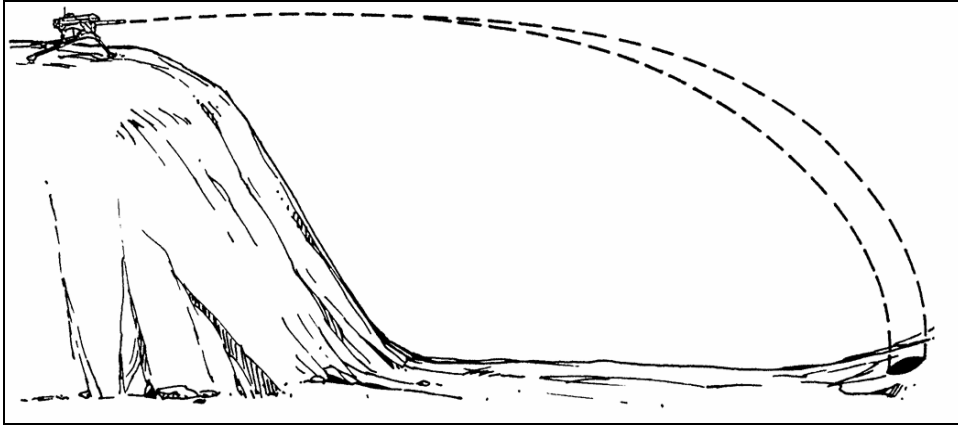

Figure 5-1. Plunging fire.
- a. **Respect to the Ground.** Normally, this means either plunging or grazing fire. However, since grazing fire is not practical for use with the MK 19, only plunging fire will be considered. Plunging fire strikes the target from a high angle and confines the danger space to the beaten zone. For example, when fired from the top of a hill, projectiles follow an arcing trajectory and land in the valley (Figure 5-1).